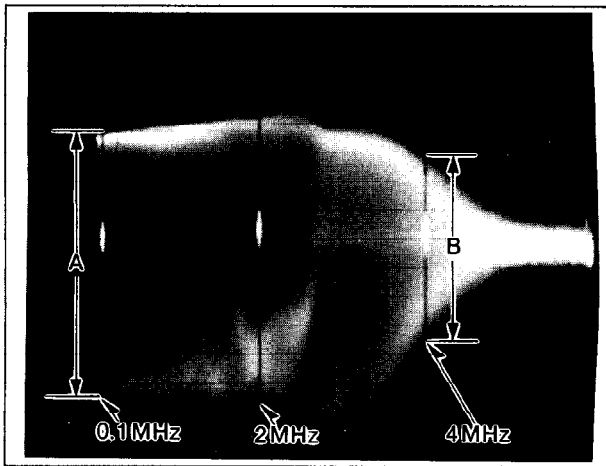

Fig. E10
5. Adjust VR3302 so that the ratio of 0.1MHz level and 4MHz level(A:B) to be 50~70% as shown in Fig.E10. (Measure wide amplitude channel on 4MHz)